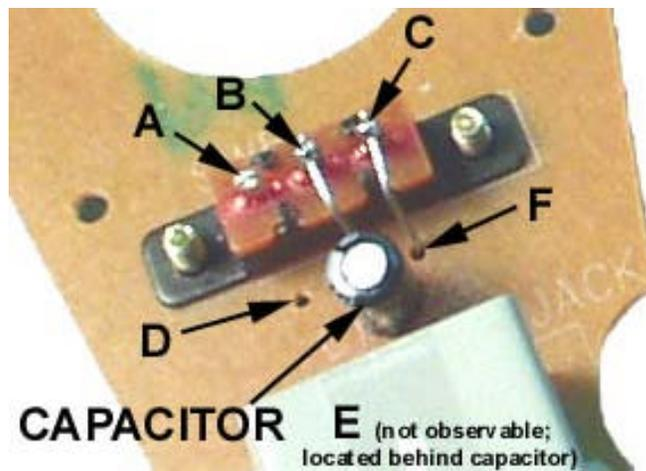

Figure 6.
- 6. Use a pair of appropriately-sized needle nose pliers to remove the capacitor (tubular) shown in Fig.6. Next, remove the wire connecting lug C on the Tone Switch to point F on the PCB. You may need to turn the PCB back over to remove the wire from F by using your soldering iron at that point again. Exercise care.